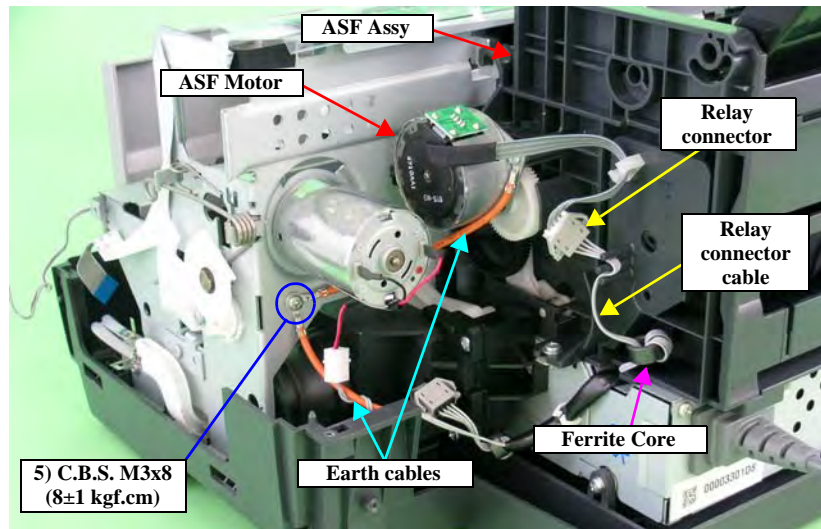

Figure 4-92. Releasing the Cables (1)
- Referring to Figure 4-92, correctly route the Relay connector cable.